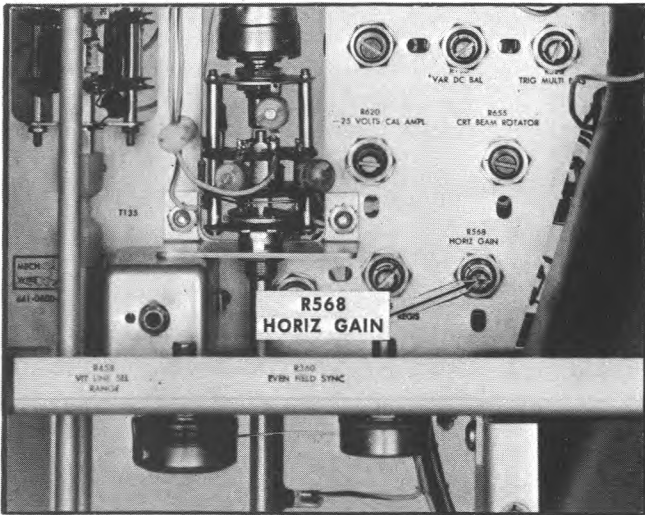

Fig. 6-16. Location of HORIZ GAIN adjustment.
- g. Adjust the HORIZ GAIN control (R568; see Fig. 6-16) for a sweep length of 10.2 cm.